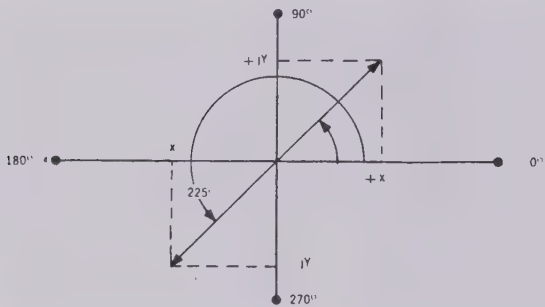

Figure 4-2. Input to Output Signal Relationships
4-5. If there is a phase shift through a unit under test, the output signal as related to the input signal contains two components: an in-phase component (X) and a quadrature component (jY). As shown in Figure 4-2, the phase angle is determined by the relative amplitudes of the components and by the arithmetical signs (plus or minus). At 45 degrees, the amplitudes are equal and both components have a plus sign. At 225 degrees, again the amplitudes are equal, but both components have a minus sign;